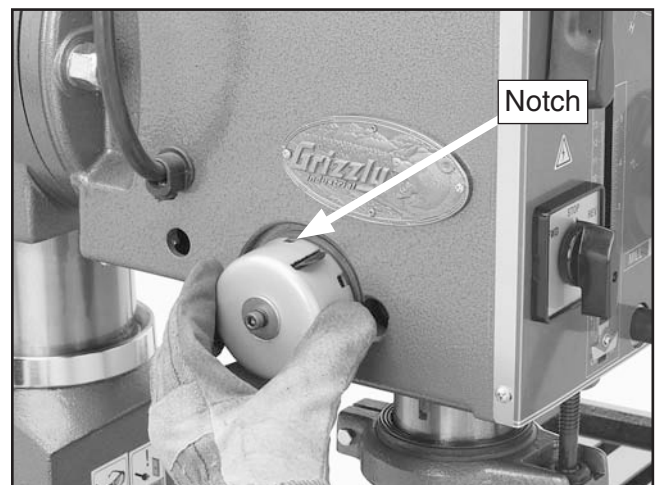

Figure 72. Adjusting spring tension.
5. Rotate the cover to adjust the tension. Push the cover back in to engage the roll pin in one of the notches (**Figure 72**).